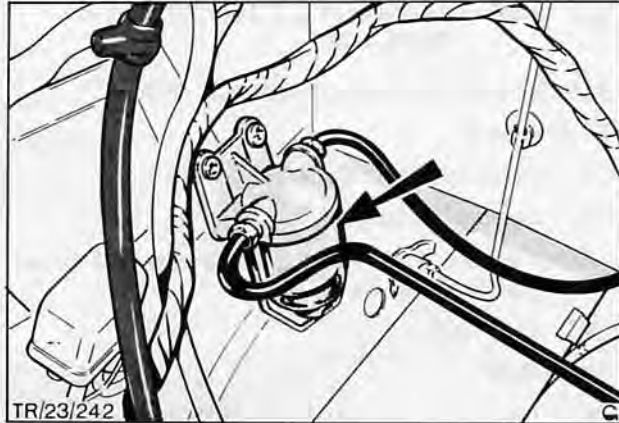

Fig. 69. Fuel line filter bowl
3. Remove filter bowl, Fig. 69, drain and clean.